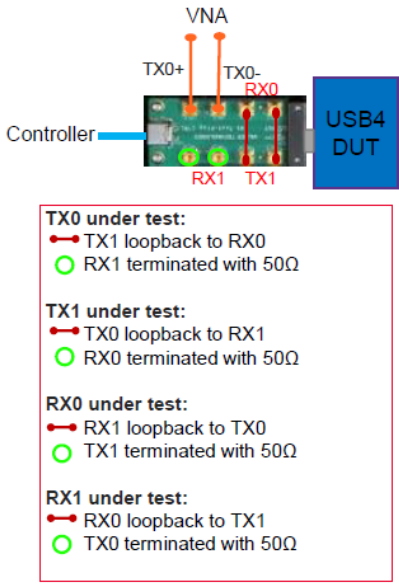

Figure 81 SMP test fixture - Tx/Rx lane switching
- 8 In case of SMP test fixture, Tx/Rx lane under test can be switched as shown in Figure 81.